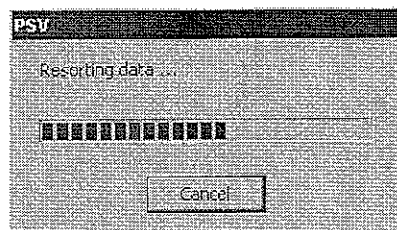
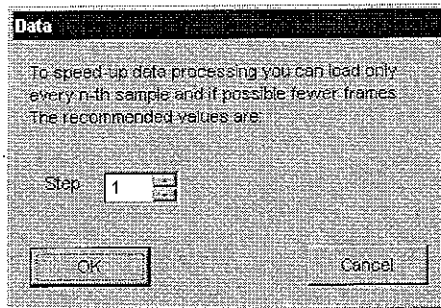

Figure 9.5: Resorting data
Figure 9.6: Dialog to reduce the quantity of data (general)
8. To do so, click  and select the channel **U_{sr}** in the pop-up menu. It is also necessary to resort the data for this. If you abort this, the dialogs shown in figure 9.5 and figure 9.6 will also be shown. In addition to this you can also limit the display of frames here to reduce the quantity of data. The same recommendations as above also apply here.